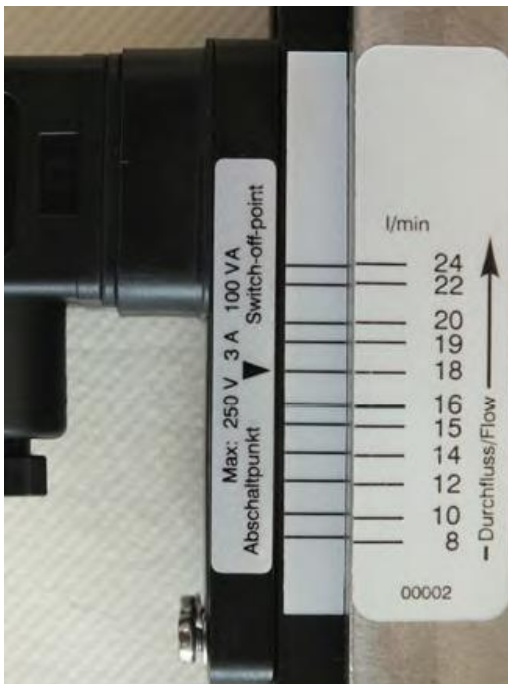

Fig. 33: Reading-off the switch point (sample scale)
1. ► Make sure that the setting arrow, the scale mark on the additional label on the guide rail and the scale mark of the switchpoint adjustment scale are in alignment. (Fig. 33)